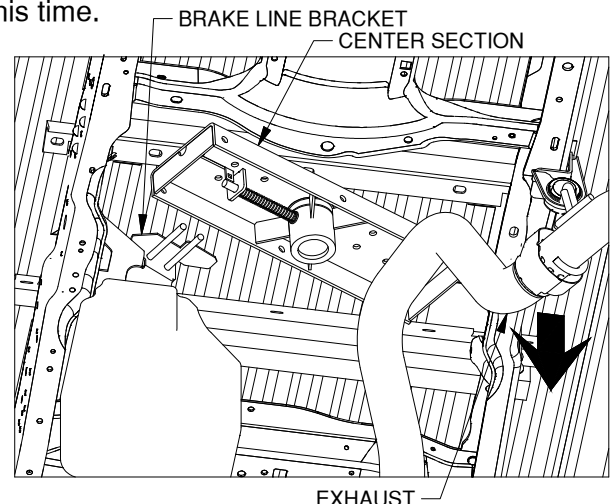

Figure B2: View under truck bed looking up at hitch.
3. **Attach the cross members to the center.** Raise the center section into position between the cross members from beneath the truck, with the latch pin release handle on the drivers side. While holding down on the exhaust, position the center section over the exhaust first then over the brake line bracket, see Figure B2. A lifting device, as described on step 6 on page 2. The round hitch receiver that protrudes from the top of the center section must fit through the hole in the truck bed floor. Slide the angles against the center section (an adjustable wrench can be used to stand the angles up if needed) and bolt together using six 1/2" x 1-1/2" bolts. Place the bolts with a flat washer through the slots in the cross member and through the holes in the center section and add a 1/2" lock washer and nut. Hand tighten hardware only at this time.